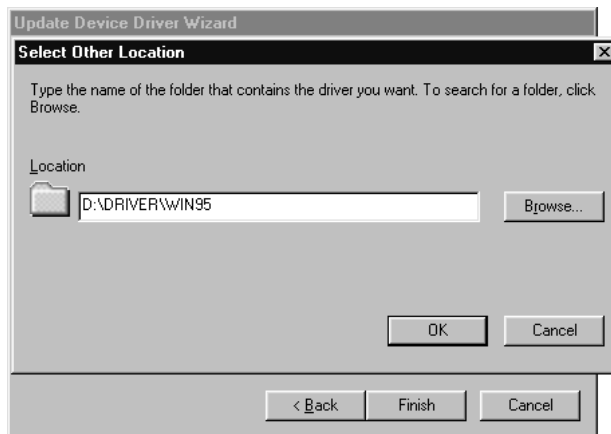

Figure 4: Entering a location
- Click on 'Other locations...'. Figure 4 will pop up.